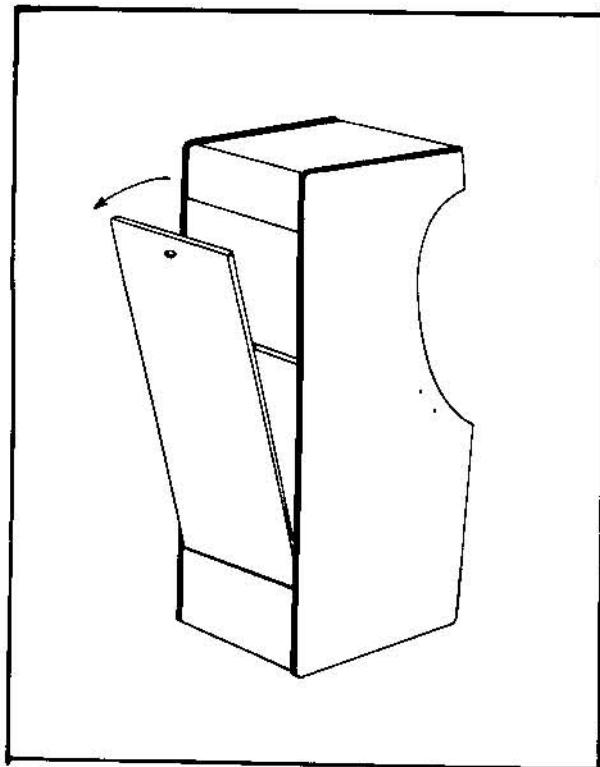

Figure 1-3 Rear Access Panel
Figure 1-3 Speed Freak Control Panel .....	1-4
- (a) Remove the rear access panel with the appropriate packaged key (refer to Figure 1-3).